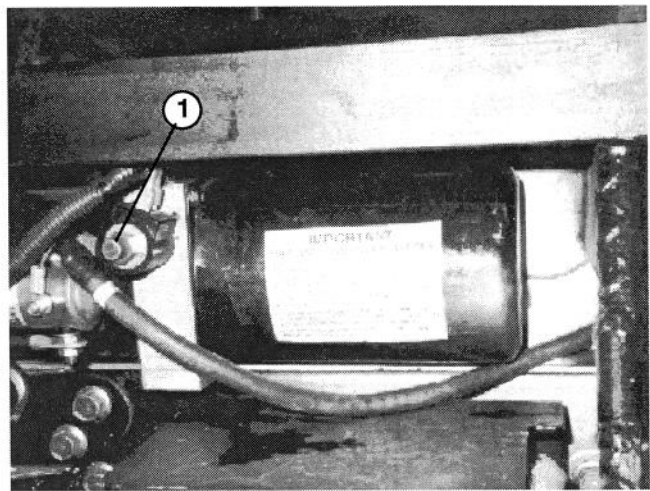

Figure 19
2. Push in red knob on solenoid valve (Fig. 19) and rotate 180° counter-clockwise to activate emergency lowering valve.